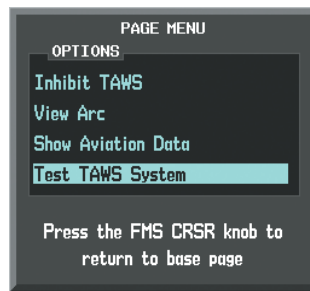

Figure 6-85 TAWS-B Page Menu
- 3) Select 'Test TAWS System' and press the **ENT** Key to confirm the selection. (Figure 6-85)